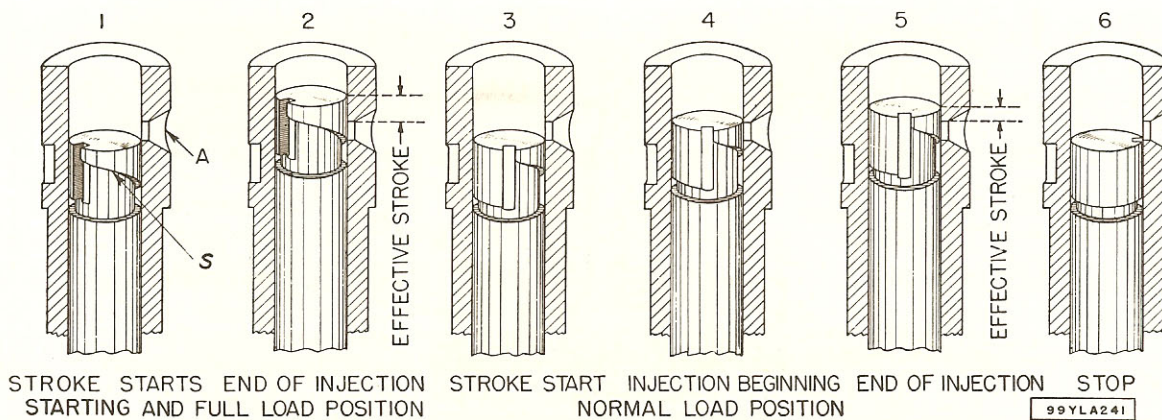

Fig. 2. Injection Pump Plunger Positions - "VE" Pumps
on the upward stroke of the plunger (N), fuel is forced out thru the discharge valve (C). It then travels thru the injection tube and valve and into the engine cylinder. Injection continues during the upward stroke until the helical edge (S) of the plunger uncovers the port (A). After the port is uncovered, the fuel is no longer injected into the cylinder but is discharged back into the fuel header (B) thru the port (A). The space below the helical edge (S) is always filled with fuel being connected with the space above the plunger by a groove in the side of the plunger. The plunger is free to rotate in the barrel. The period of injection varies depending upon the distance between the top of the plunger and the point on the helical edge which uncovers the port. The plunger rotation is controlled by the governor thru a rack (D) and pinion (E). Fig. 2 shows the injection pump barrel and plunger with the plunger at the beginning and end of its stroke for various load conditions.